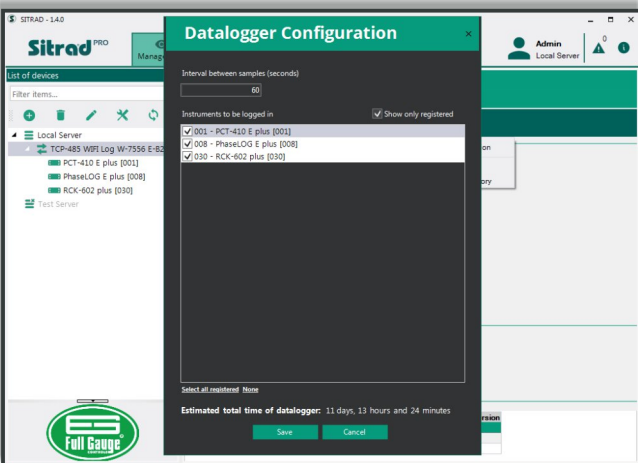

Figure 32
Step 2: The **Datalogger Configuration** screen is displayed (Figure 32). Set the interval between samples and select the instruments you want to be registered in the datalogger. Only registered instruments are displayed in the list. To insert instruments per address that have not been installed yet, uncheck the **"Show only registered"** box, and all addresses will be available to choose from. The screen also displays the estimated total history time of the datalogger. Click **Save** to keep your changes.